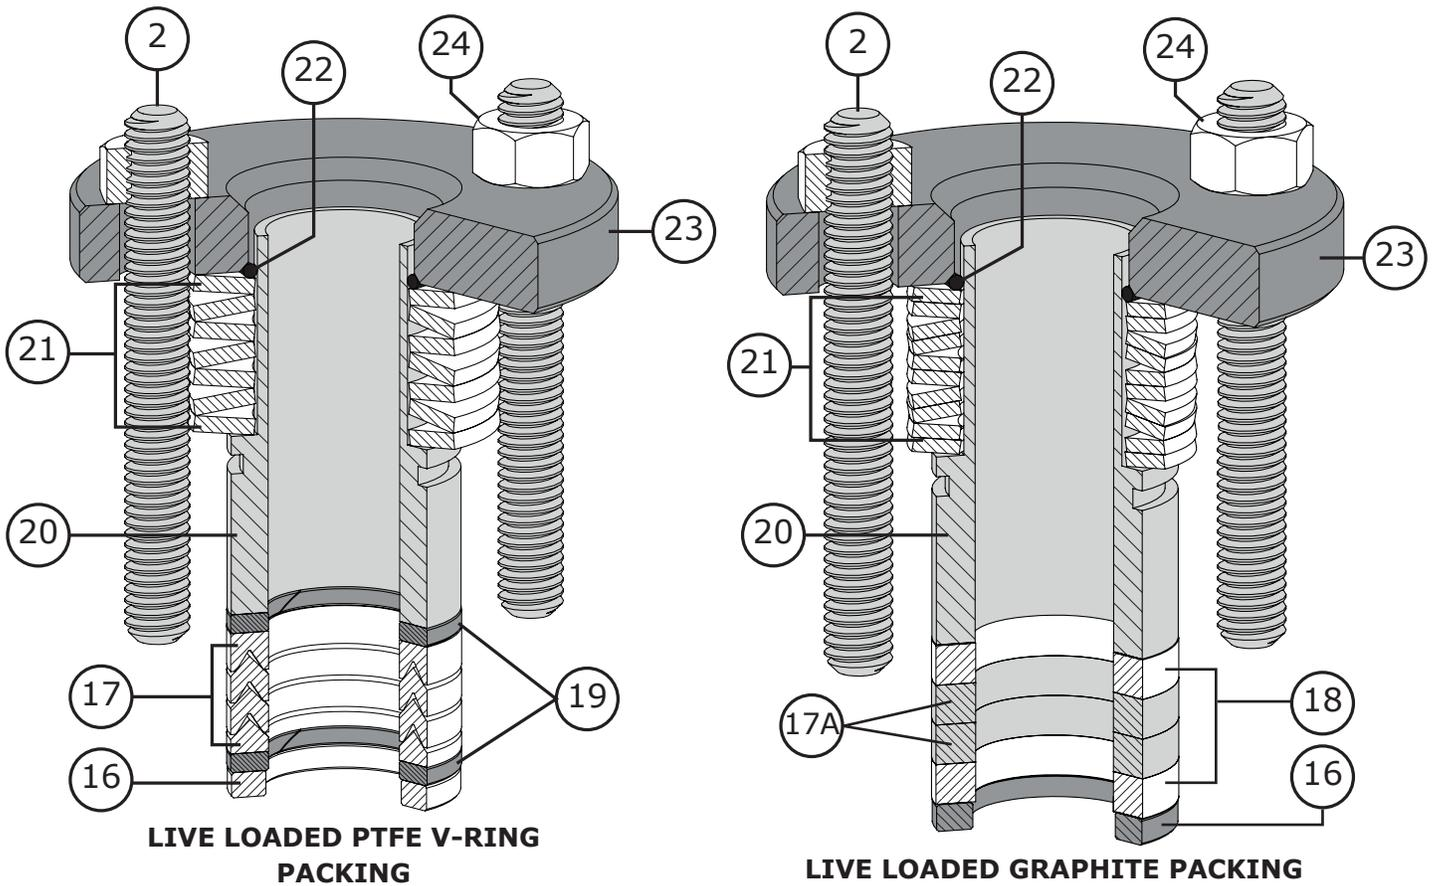

Figure 60 Packing Configuration Diagrams (Refer to Figure 61 & 62 for Spring Washer, Key 21, Arrangements)
- 3 Install the PTFE packing rings (Key 17) one ring at a time (as described in the NOTE on Page 35) in the proper order and orientation as shown in Figure 60.
- 2 Install the graphite packing rings (Keys 17A & 18) one ring at a time (as described in the NOTE on Page 35) in the proper order and orientation as shown in Figure 60.